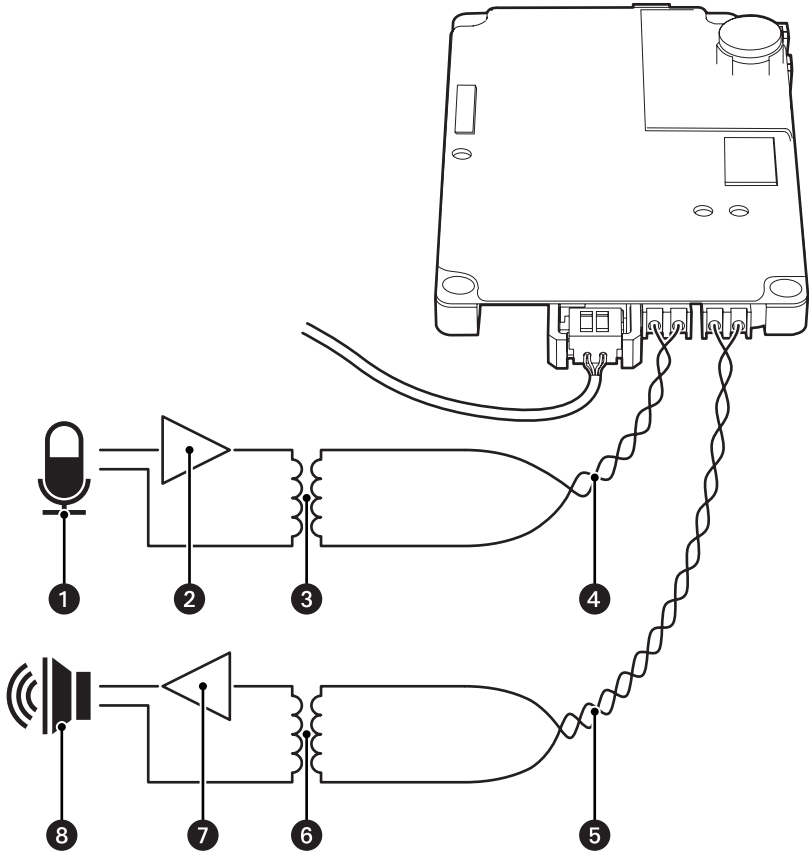

Figure 5. Audio Connections
- To take full advantage of the UTP distance and noise immunity benefits, you must use a 600-ohm impedance matching transformer (refer to Figure 5 on page 6).